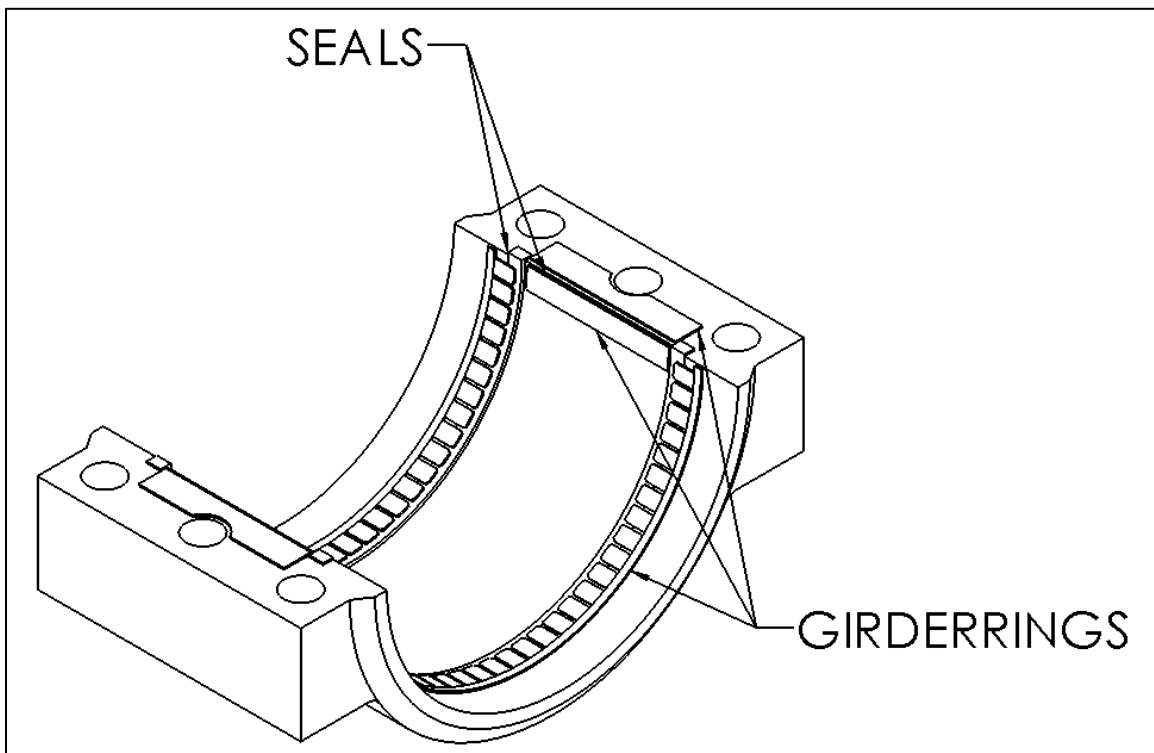

Figure 4
**Note:** Careless handling can damage the seals and GirderRings (seal retainers). Lifting devices such as chains, cables, or straps should never contact the seals or GirderRings. Never lift the fitting by inserting the forks from a fork lift inside of the fitting. Contact on the seals or GirderRings can result in the seals being pulled from their grooves. (See Figure 4)